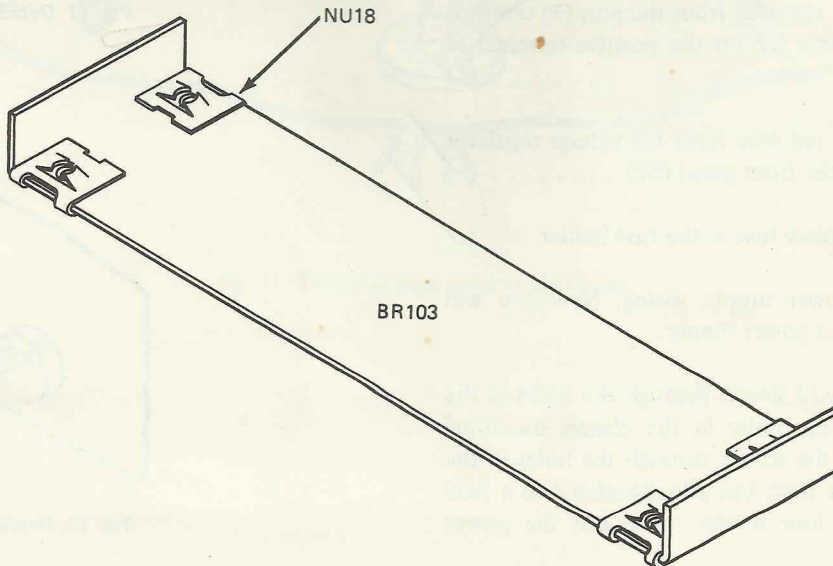

Fig. 13. The alignment bracket with four Tinnerman nuts in place.
(2) Now locate the two cabinet alignment brackets (BR103) and mount four Tinnerman nuts on the brackets over the four holes as shown in Fig. 13. The raised portion of the Tinnerman nut goes on the inside of the U-shaped brackets. (✓)